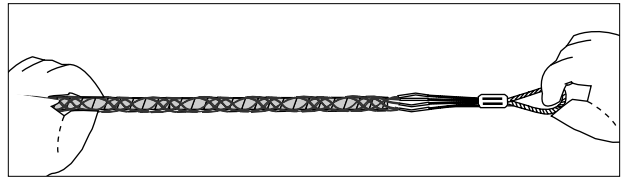

Figure 16 — Tightening the grip
Step 18: Smooth the mesh back over the cable core, moving from the pulling eye to the cable jacket. Tug on the grip to tighten it against the core (Figure 16).